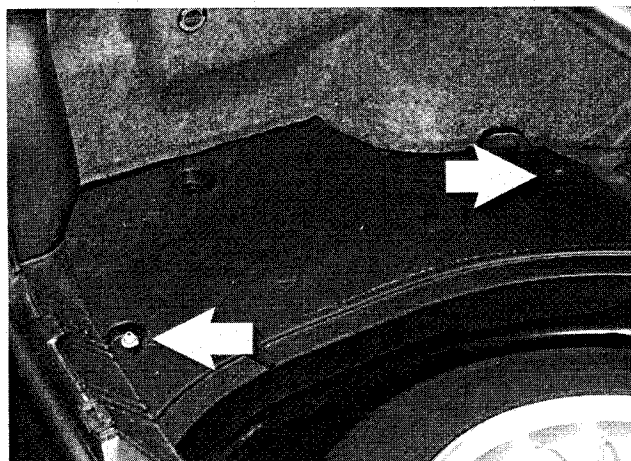

Fig. 13. Luggage compartment floor panel fasteners (arrows). (Left side shown. Right side is similar)
4. Remove fasteners from left or right luggage compartment floor panels and lift out panel. See Fig. 13. Impact absorber mounting nuts can now be accessed.